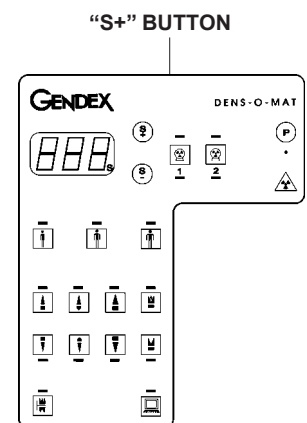

Figure 3
- 7) Press “S+” button (see figure 3) until the indication “2.5” appears on display.